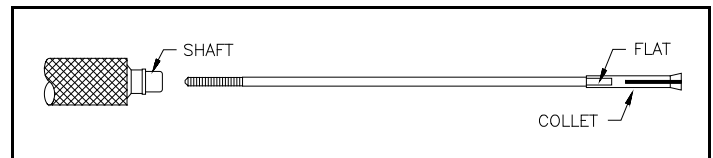

Figure 2.
- 3.2 **CAUTION:** Insert the collet carefully. **IMPORTANT:** With a **VERY SLIGHT** pressure on the end of the collet, turn it slowly until it engages with the flat. See Figure 2. Slide it in until it seats into the shaft. **DON'T** force the collet.